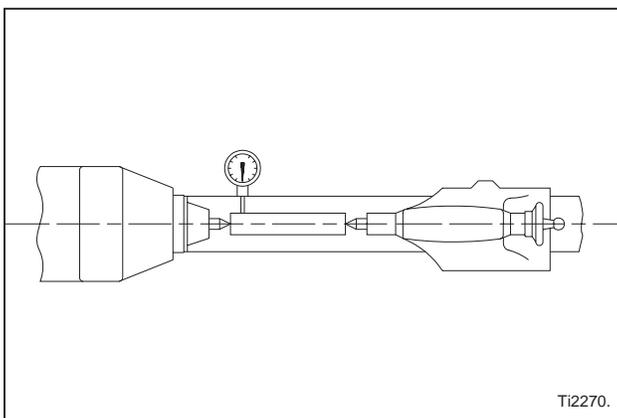
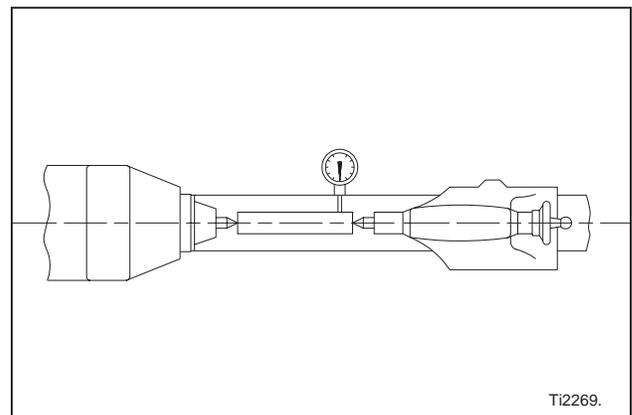

Figure 6.49 - Horizontal Alignment
Figure 6.50 - Horizontal Alignment
15. Position the indicator to touch the diameter of the test arbor at the headstock end as close to the arbor centerline as possible. Refer to Figure 6.49 .
- d) Without moving the indicator or turning the test arbor, reset the indicator dial to zero (0).
17. Move the machine carriage (Z axis) toward the tailstock a distance of six (6) inches [152.4 mm] to position the indicator as shown in Figure 6.50 .